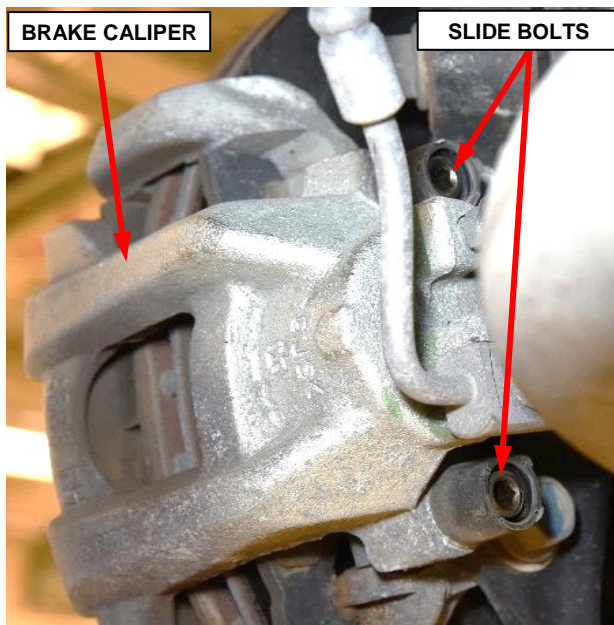

Figure 13 – Brake Caliper Slide Bolts
20. Fully loosen (unthread) the brake caliper slide bolts (guide pins) from the brake caliper adapter (Figure 13).
27. Tighten the brake caliper slide bolts (guide pins) to 27.5 N·m (20 ft. lbs.) (Figure 13).